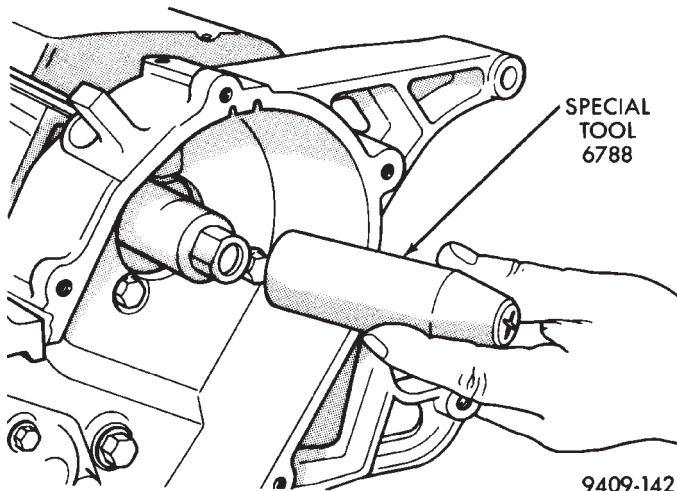
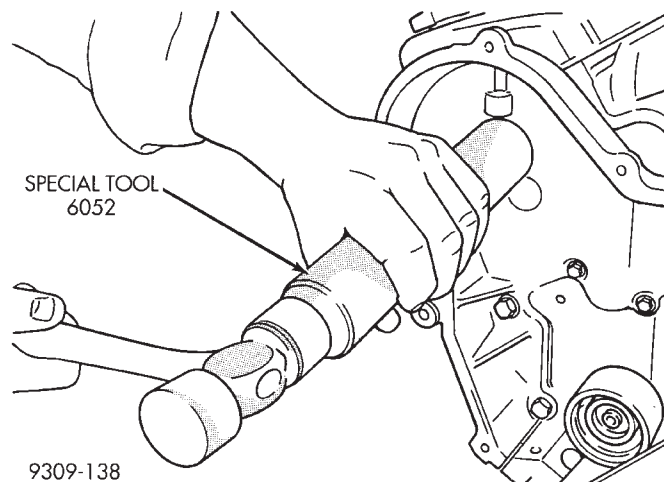

Fig. 75 Camshaft Oil Seal Protector Sleeve
Fig. 76 Camshaft Oil Seal—Installation
(1) Apply light coat of engine oil to the camshaft oil seal lip.
(2) Install the oil seal using Special Tool 6788 Seal Protector Sleeve (Fig. 75) and Seal Installer 6052 (Fig. 76).
(3) Install camshaft sprockets. Refer to procedure in this section.